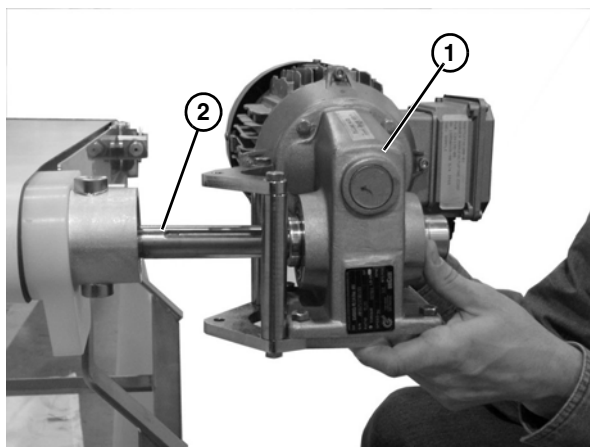

Figure 4
2. Slide the gearmotor assembly (**Figure 4, item 1**) onto the drive spindle (**Figure 4, item 2**).